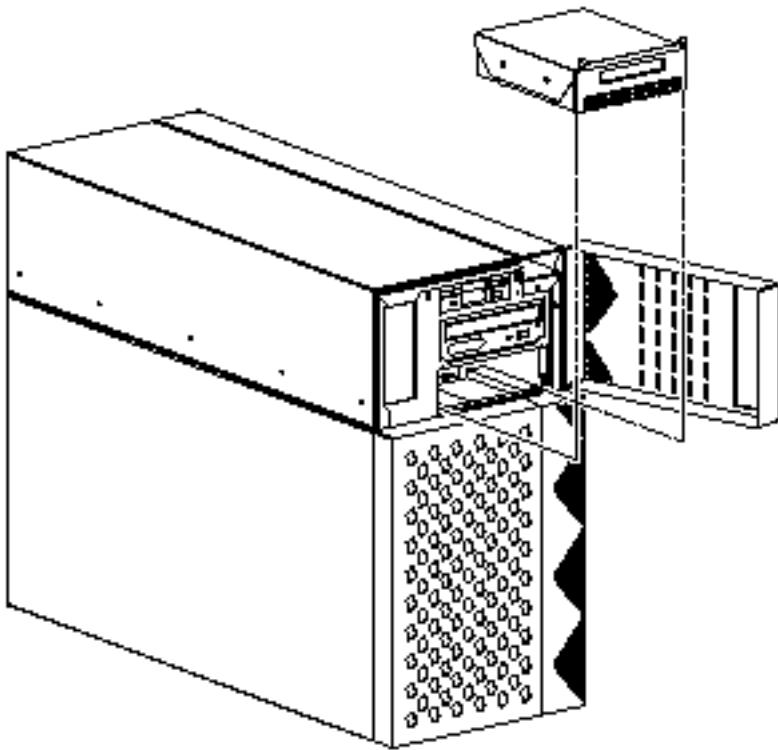

Figure 2-10 Installing the Tape Drive
- 9. Carefully slide the tape drive into the Netra 150 server (Figure 2-10).**
- 2. Carefully slide the tape drive part way out of the front of the Netra 150's server (Figure 2-10).**